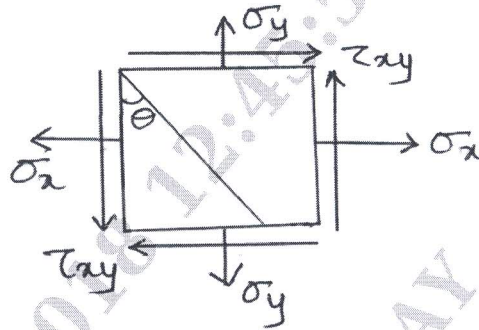

Fig.Q3(a)
- 3 a. Derive the expression for normal stress and shear stress on a plane inclined at ' θ ' to the vertical axis in a general stress system as shown in Fig.Q3(a). (08 Marks)